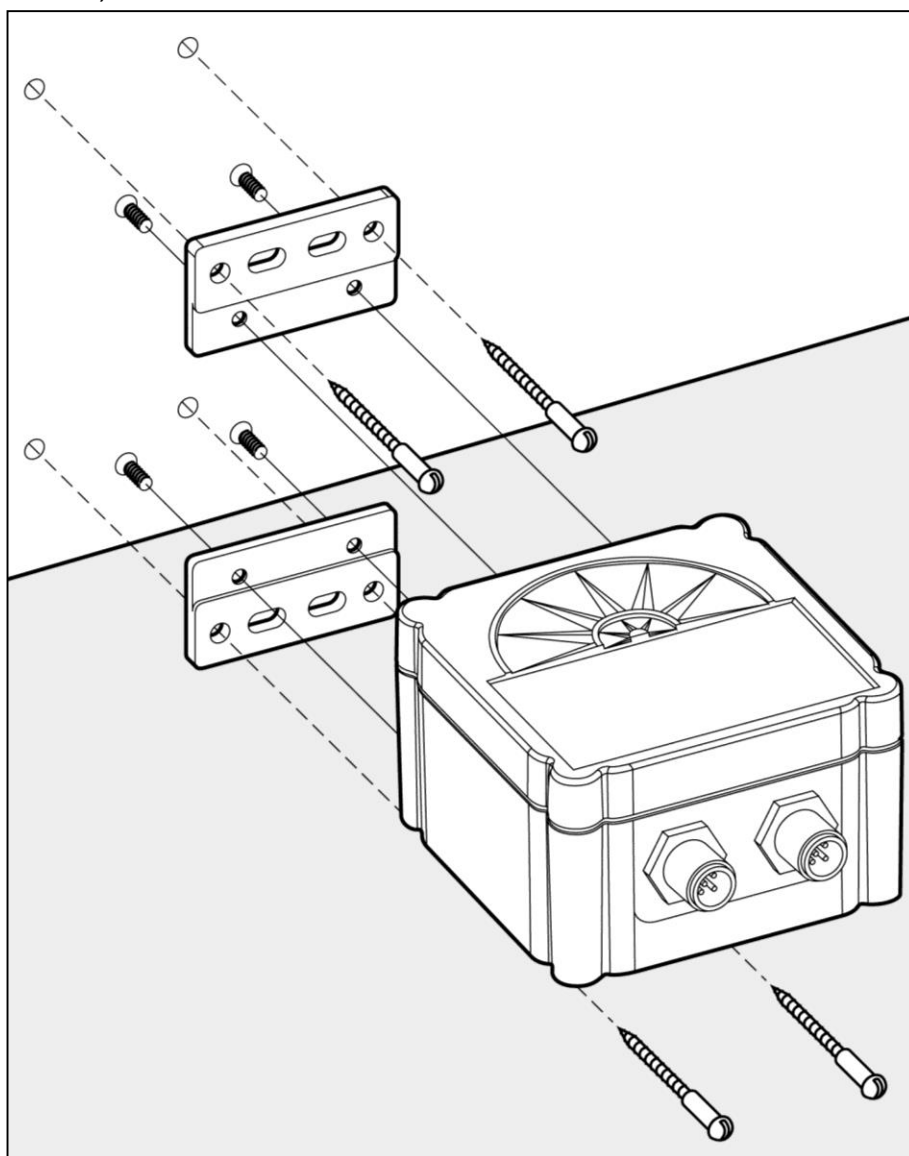

Figure 2 – Mounting the SSC300 to Vertical Surface
as shown in Figure 2. Do not use threadlocking compounds containing methacrylate ester, such as Loctite Red (271), as they will cause stress cracking of the plastic enclosure. The use of adhesives, Velcro, straps, or any mounting hardware not supplied with the SSC300 is not recommended, as it may adversely affect the performance of the SSC300.